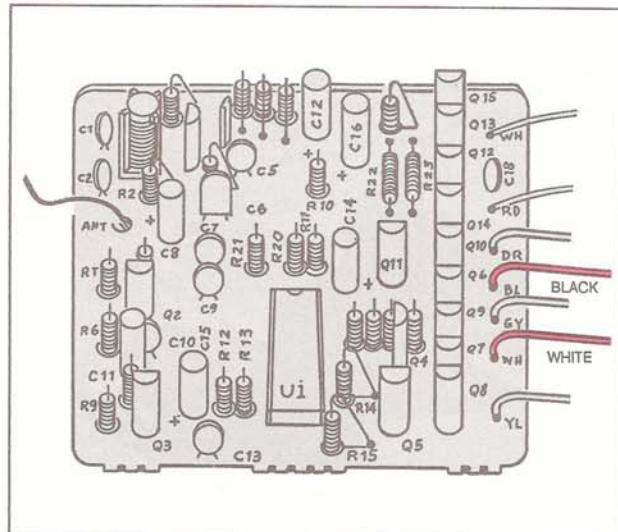

FIG. 81
5. Connect and solder the BLACK and WHITE Drive Motor leads to the points specified in Fig. 81.